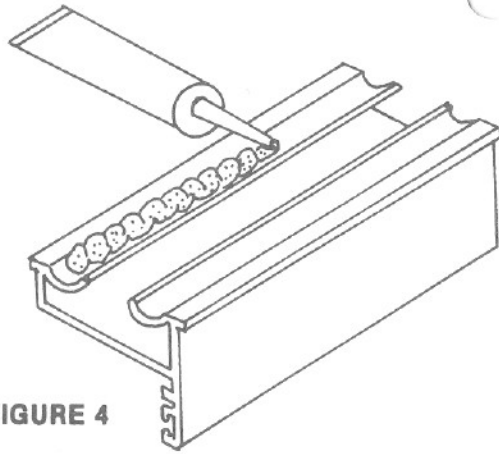

FIGURE 4
4. **INSTALLATION OF BOTTOM TRACK:** Clean rim of tub or stall base with mineral spirits or turpentine. Apply a thin ribbon of adhesive to both caulk channels of the bottom track. SEE FIGURE 4. Position the bottom track in the marked area of the base (short leg of track with mounting holes of bottom track guide facing in towards bathing area).